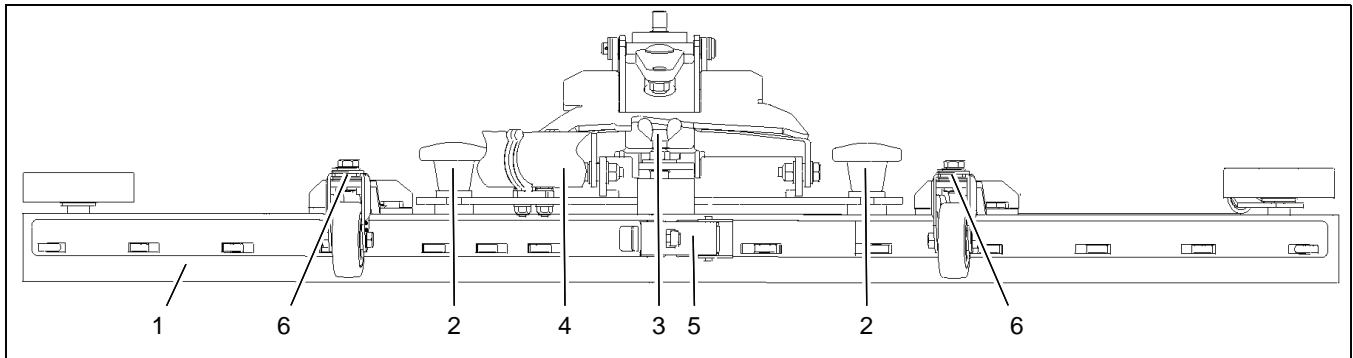

Fig.12
Check the squeegee (Fig. 12/1) daily and clean as necessary. To clean it lift up the squeegee, pull off the suction hose (Fig. 12/4), loosen the two star-shaped knobs (Fig. 12/2) and remove the squeegee.
Check the inner and outer squeegee blades on the squeegee (Fig. 12/1) weekly for signs of wear. The squeegee blades can be used fourfold by turning them.
3. Unlock the fastening device (Fig. 12/5) and remove the outer squeegee blade. Turn the squeegee blade or install a new one. Change the inner squeegee blade in the same way.
2. Loosen the counternut on the adjusting screw (Fig. 12/3) and adjust the squeegee using the adjusting screw so that the ends of the squeegee blades have contact with the floor.